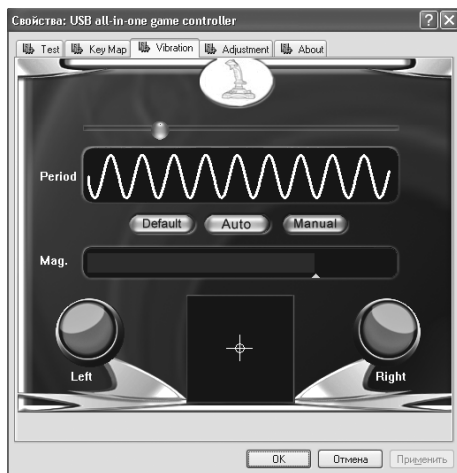
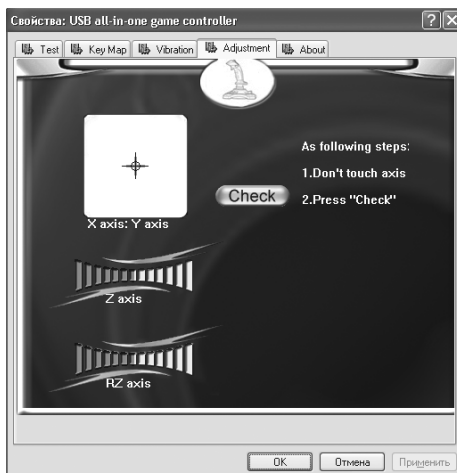

Fig. 7
Fig. 8
• Vibration feedback function. Enter Vibration tab (Fig. 7) to test vibration feedback function. Fluctuating and swaying action of the flight joystick corresponds to motor vibration; period (Period) and range (Mag.) of vibration can be adjusted during vibration test. In the center there is a field that shows shifting of joystick handle with vibration. Vibration indicators are on the left and on the right. Shifting to the left and right you activate Left indicator, while shifting up and down you activate Right indicator. Alternatively, you can click Auto for auto-test.
**Note! Vibration feedback function turns on and off by ON/OFF VIBRATION switch ⑨ on the flight joystick.**
• D-pad calibration. If the indicating cursor of each axis does not return to the central position or does not fix in all the four sides during tests, please click Adjustment menu (Fig. 8) for calibration: Check → Next → Check → Next → Save.